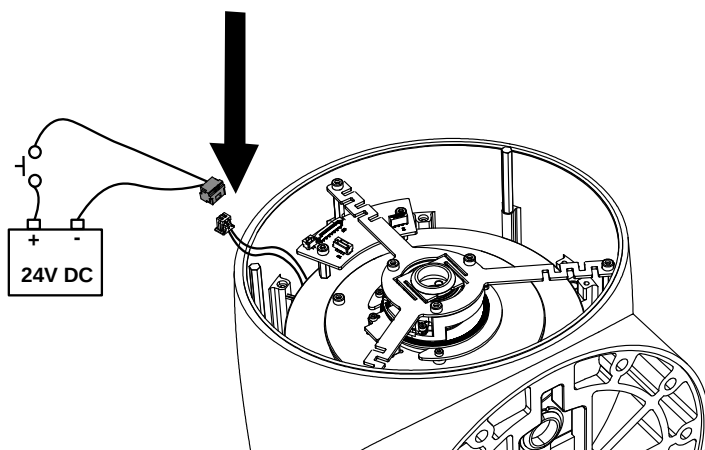

Figure 2-5: Connection of 24V DC external power supply for joint 1 and 2 of Zu 20
4. Connect the 24V DC external power supply with automatic reset switch to the terminal of the brake wire (shown in Figure 2-5 below).